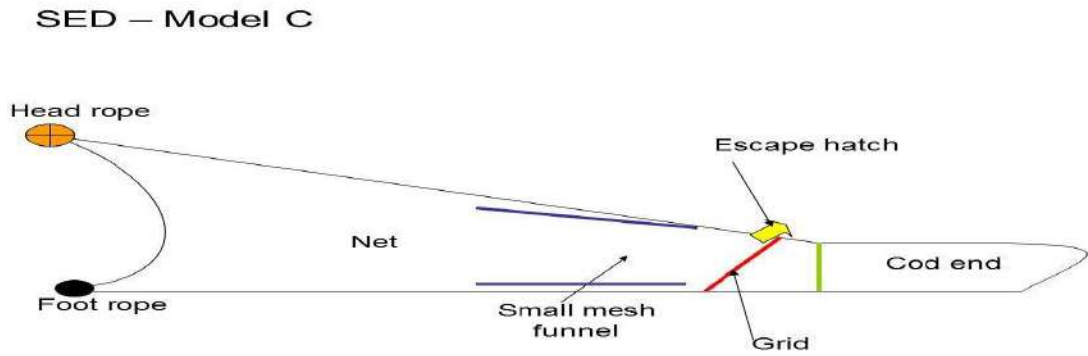

Fig.5. General diagram SED-C.
- iii. **SED - Model C:** A small mesh funnel is installed to direct water flow towards the grid (Fig.5, 6).